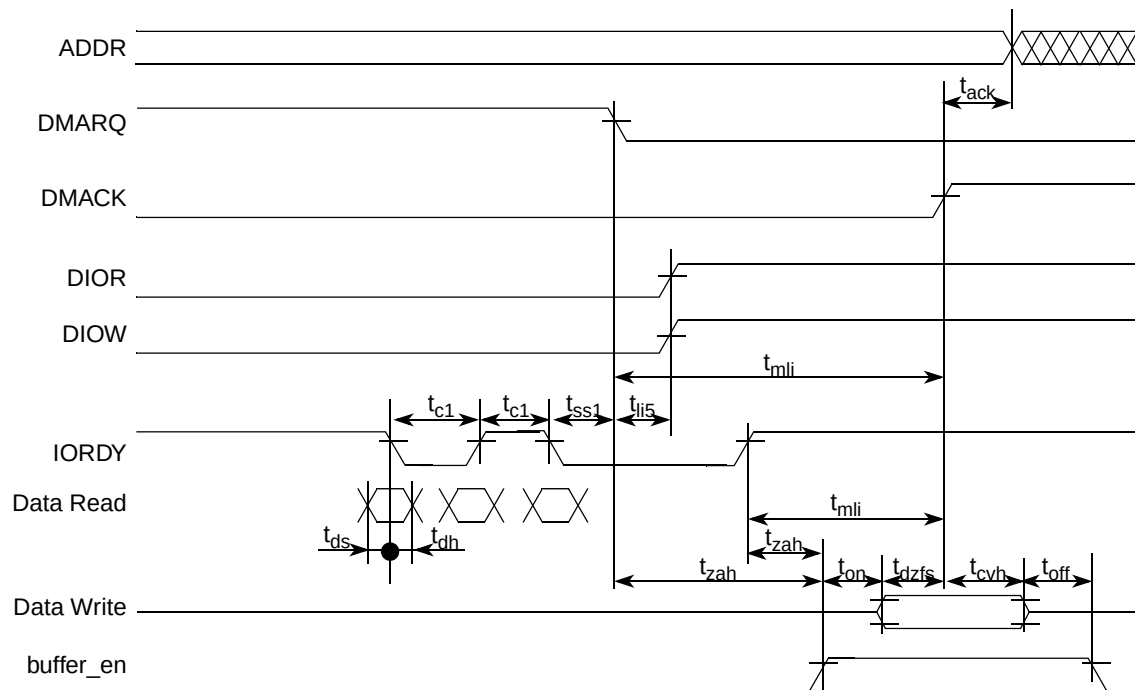

Figure 31. UDMA In Device Terminates Transfer
- Figure 31 gives timing for device terminating UDMA in transfer.